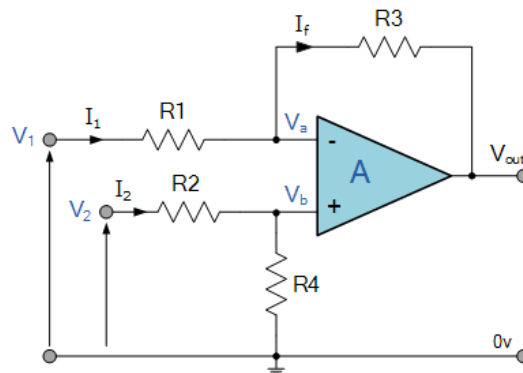

Figure 3 - Op-Amp Differential Circuit
4.....	Figure 3 - Op-Amp Differential Circuit